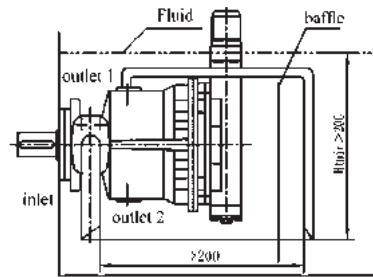

Fig. 3
a) If the minimum fluid level is above the top of the pump, port "outlet 2" closed, "outlet 1" and "inlet" should remain open, "outlet 1" piped and recommendation "inlet" piped (see Fig. 3)